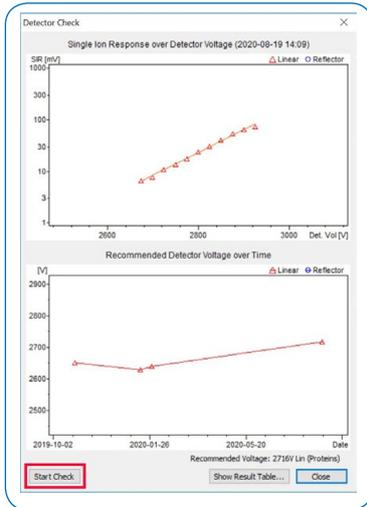

Figure 4.7 Detector Check
- The Detector Check window will open (see Figure 4.7)
- In the new window, click on „Start Check“ (see Figure 4.7)